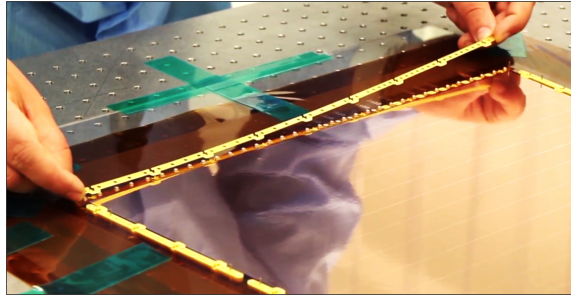

Figure 65: Placing the last internal frame after testing.
Step 16: Before mounting the frame on the large base of the trapezoid, test again the GEM foil at 550V with the insulation meter. After the test is passed, discharge the foil and put the last piece of frame in place (Fig. 65).